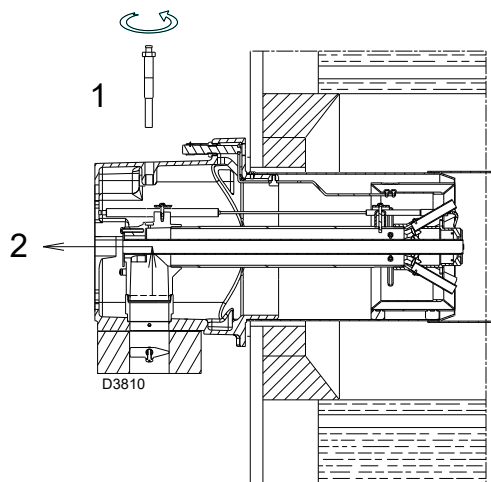

Fig. 15
- remove the screw 1)(Fig. 15)
- take out the inner part 2)(Fig. 15) of the head and then calibrate them.
Do not rotate the probe but leave it as in Fig. 15; if it is too close to the ignition electrode, it could damage the control box amplifier.